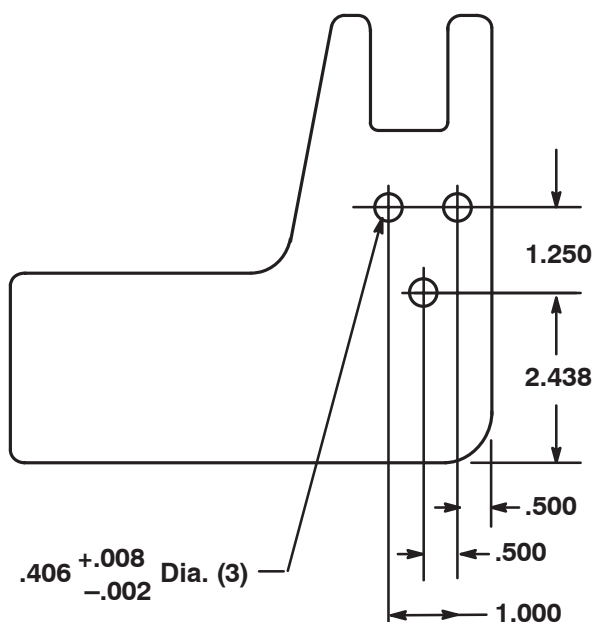

Figure 6
Note: If the rear cradle mounting holes are not in the lift arms, use the dimensions shown in Figure 6 to locate, mark, and drill the 3 holes (13/32 in. diameter) required in each lift arm.
4. Slide the carrier frame onto the lift arms aligning the mounting holes. Secure each side of the carrier frame to the lift arms with 3 capscrews (1/2 x 1-1/2 in.). Torque the capscrews to 70–80 ft.-lb. (95–108 N·m) (Fig. 6).